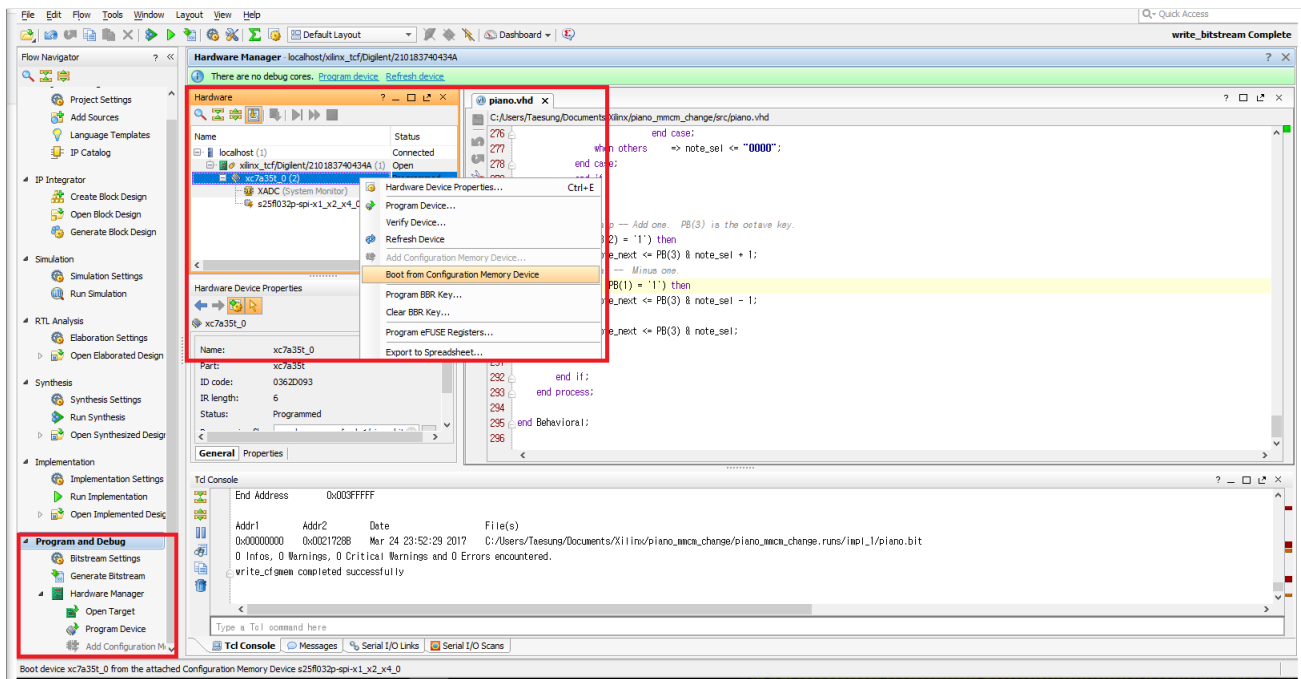

Figure 1.
All of the outlined procedure above can be executed from inside the red box in lower left corner of Figure 1.
4. Refer to the top red box in Figure 1. Right click "s25fl023p-spi-..." and click Program Configuration Memory Device